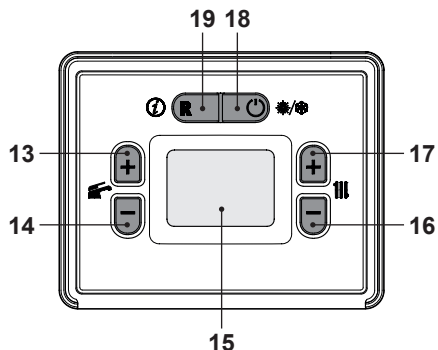

Figure 6.6
- Press the 18 button (Figure 6.6) until the message **OFF** appears on the LCD display (Figure 6.5).